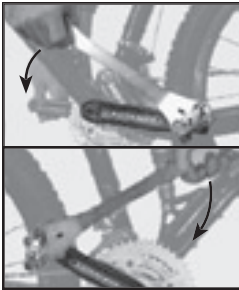

Figure 3 Tightening pedals
Every 3 months inspect your pedals. Tighten the pedals into the crank arms; turn the right pedal clockwise, but the left pedal counter-clockwise (Figure 3):
1. Turn the right pedal spindle counter-clockwise to remove the right pedal, the opposite direction of tightening (Figure 3).